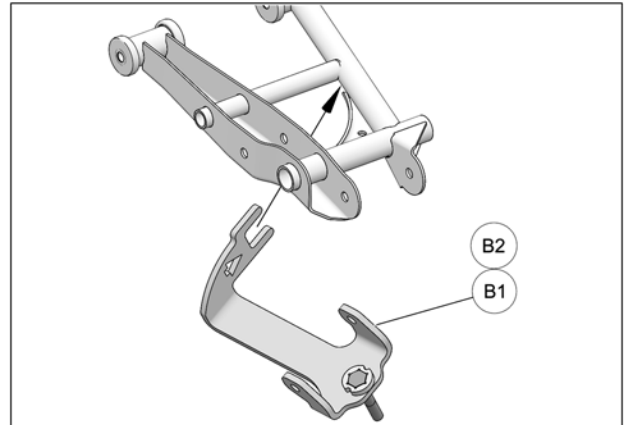

Fig. 7
6. Lift bracket (**B1-B2**) up to lower suspension arm. Hook back end of bracket over front facing member of suspension arm, as shown below in Fig. 7